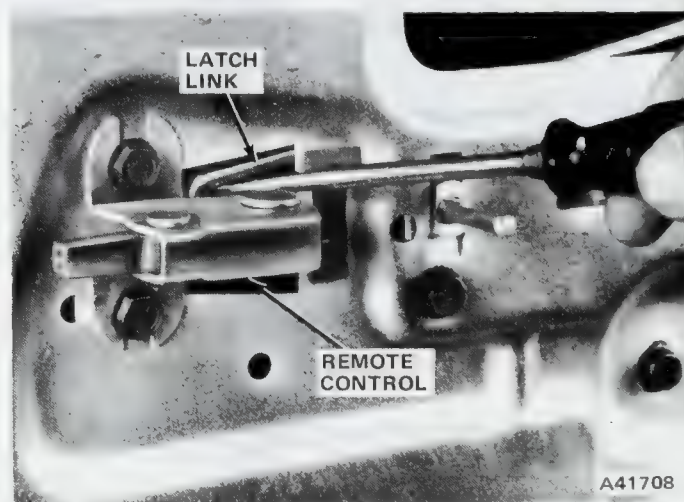

Fig. 3J-51 Remote Control Link Removal—Matador
(1) Remove door trim panel and water dam paper.
(2) Remove remote link from remote control by prying up link (fig. 3J-51).
(3) Remove remote control attaching screws and remote control (fig. 3J-46).